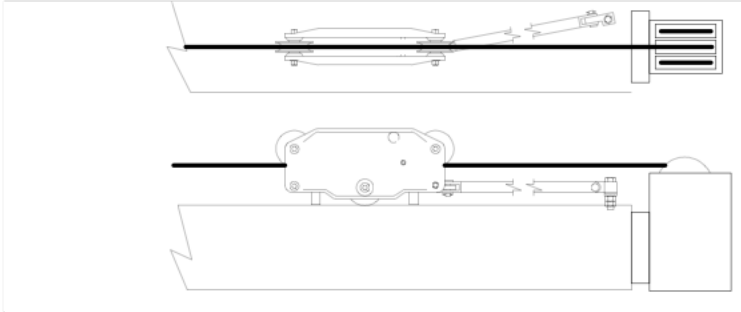

Figure 5. Hydraulic Boom Linerider Installation.
1. Affix the bolt at the tip of the base section on the main boom similar to Figure 5.